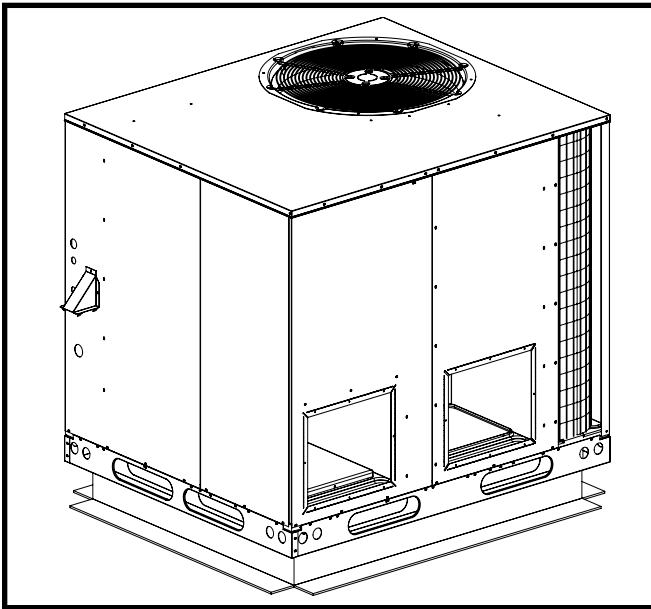

Figure 5. Roof Top Installation
- The appropriate accessory roof curb (Figure 5, page 12) must be installed prior to unit installation. The roof curb must be square and level to ensure proper condensate drainage. **Please follow all instructions provided with the kit.**